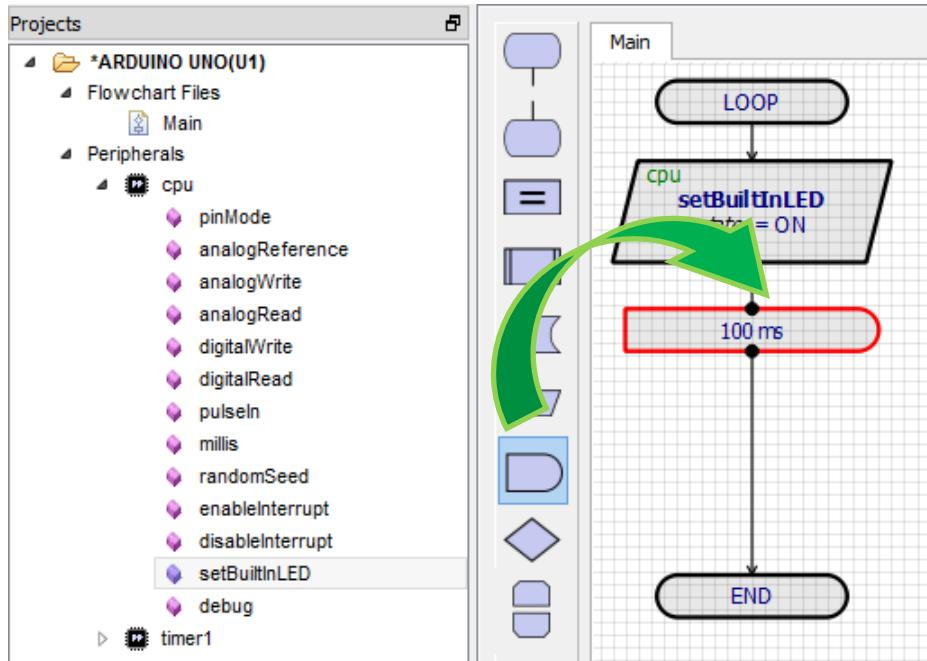

Figure 2-15: Inserting a delay block
Step 2: The next step is to add a delay, before we switch the LED off again. This is done using a delay block; so drag a delay block into the flowchart, inserting it after the setBuildInLED block (Figure 2-15).